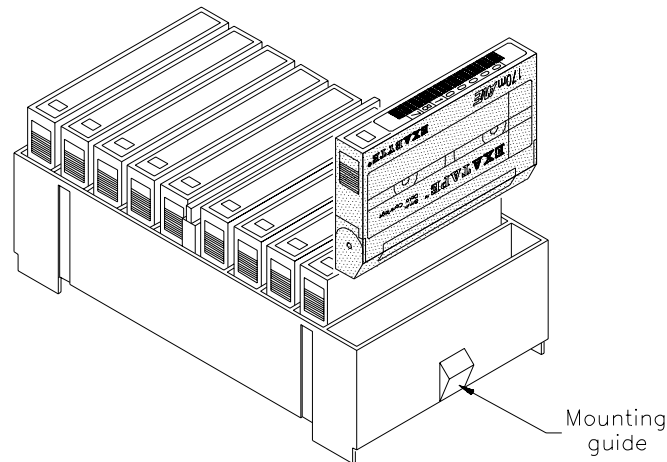

Figure 1-14 Installing data cartridges in the magazine
1. Place the magazine on its feet with the single mounting guide toward the right, as shown in Figure 1-14.
2. Position each cartridge so that the bar code label is on top and the write-protect switch is toward the front (see Figure 1-14).
1. Position the cartridge so that the window showing the tape reels is toward the top (see Figure 1-14).